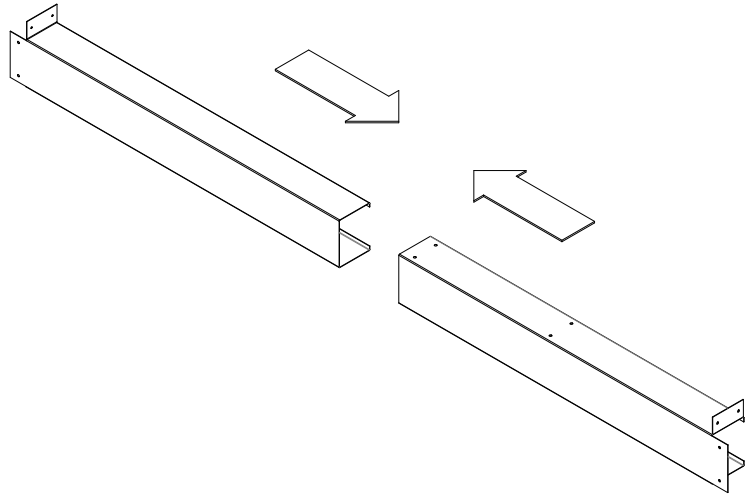

Figure 14: Steel Stud Assembly
- Take the two steel stud pieces and slid them into each other. The flanges of each piece should be at the end of the assembly, as well as facing upwards as shown in Figure 14.